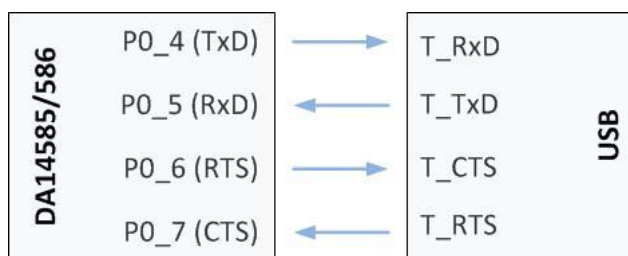

Figure 4: Data direction of UART within J4
**Note:** Please notice that the signals connected on the DA14585/586 SoC are located on the left pins row of header J4 as shown in Figure 4.